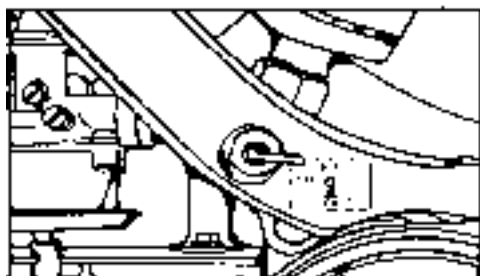

Fig. 6
- e) Fuel cock lever (Fig. 6,)
Open the fuel cock (Fig6) push in the choke pin (Fig.7) as far as it will go the pin returns immediately into its original position but the air intake remains throttled – the engine is supplied with a richer mixture.
If you have to slow down, release the twist grip and apply the brakes by pulling the brake levers (2.3 -Fig.2). Proceed in the same way to stop the moped. The reduction of engine speed results in the disengagement of the driving clutch, and the engine runs at idling speed. To continue the ride, just accelerate (turn the twist grip). The driving clutch engages and the moped starts moving. At the end of the trip stop the engine by depressing kill switch push button and shut off the fuel supply by turning the lever of the fuel cock (Fig. 6)